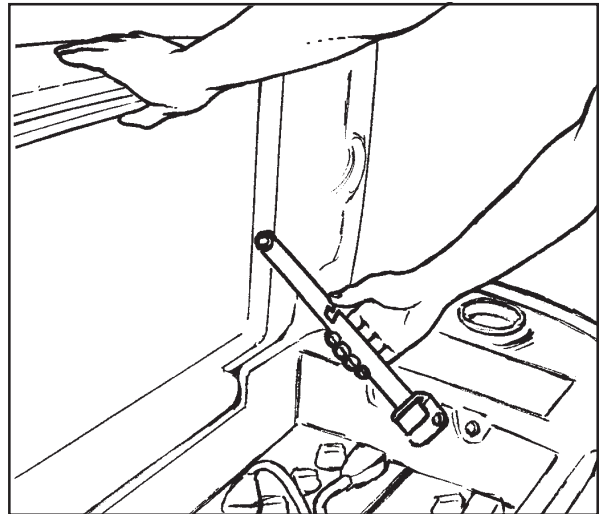

Figure 29A
1. To inspect batteries, tip up recovery tank until it locks in the full open position. See figure 29A. To close the tank, pull up on the latch arm and then slowly lower the tank to the closed position.